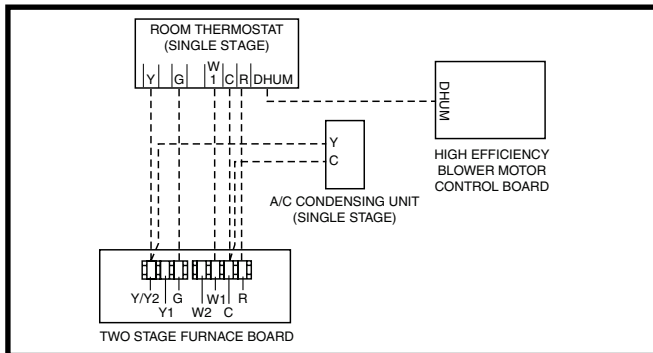
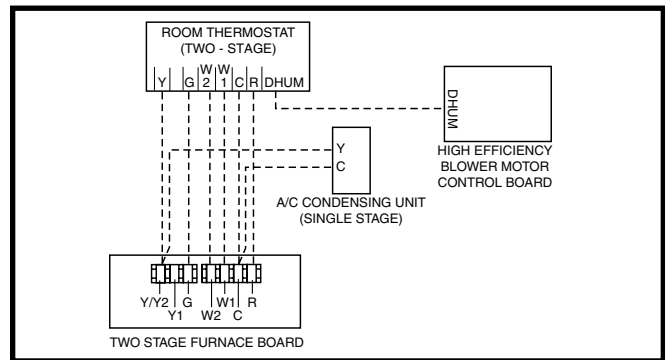
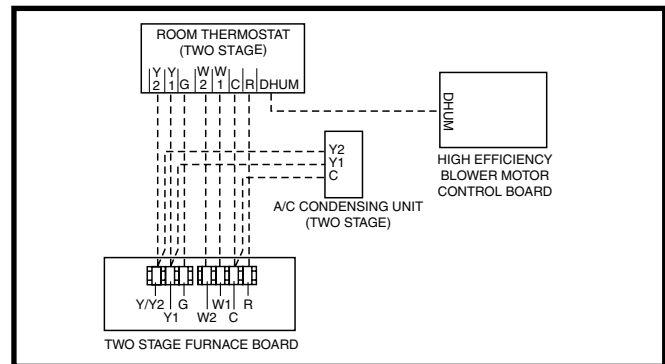

Figure 15. Wiring Configuration 1
Figure 16. Wiring Configuration 2
Figure 17. Wiring Configuration 3
- Connect the thermostat's W output to the furnace control boards W1 terminal. This allows the furnace to always run in low output mode. See Figure 15.
This option uses the full two-stage heating capability of the furnace with a single stage outdoor unit. See Figure 16.
This option uses the full two-stage heating capability of the furnace with a two-stage outdoor unit. See Figure 17.
The Autostaging feature included make it possible to use a single stage thermostat and still receive some of the benefits of 2-stage furnace operation. If Autostage is enabled, the furnace will drop to **LOW** fire after initially starting in **HIGH** fire. After a period of 10 minutes, the furnace will then stage up to **HIGH** fire, until the heating load is met. See Figure 15 and the Thermostat / Low Voltage Connection section.
- √ Verify that all needed thermostat wires are securely connected to the correct leads on the terminal strip of the circuit board. See Figure 15, (page 20), Figure 16, (page 20), & Figure 17, (page 20).
The operating sequences for the heating, cooling, and fan modes are described below. Refer to the field and furnace wiring diagrams: Figure 14, (page 19) , Figure 15, (page 20), Figure 16, (page 20), Figure 17, (page 20), Figure 25, (page 29), Figure 26, (page 30), Figure 27, (page 31), and Figure 28, (page 32).